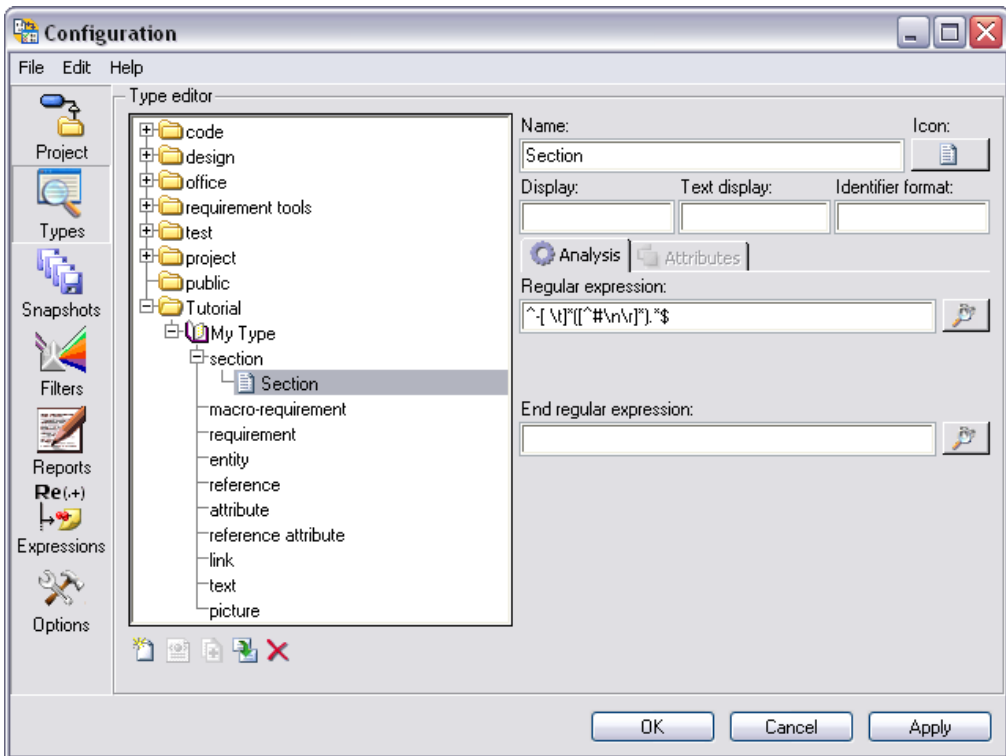

Figure 5-4. Section Element of the Custom Type
11. Enter `^-[\t]*([^\n\r]*)\.*$` in the **Regular expression** control on the Analysis tab, as shown in Figure 5-4.